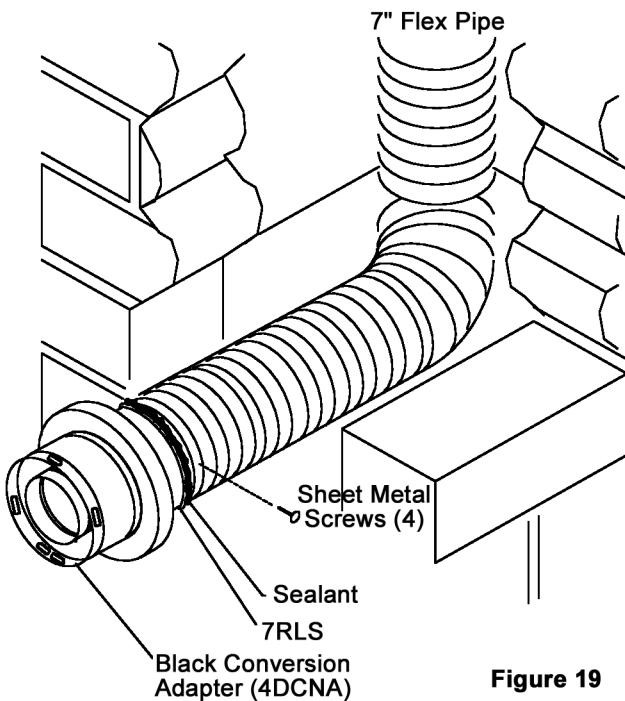

Figure 19
23. Insert the crimped end (unflanged) of the 7RLS into the bottom end of the 7" flex up to the point of the flared-out bead around the circumference of the 7RLS. Fasten it to the flex pipe with sheet metal screws. Put a bead of sealant around the seam of the 7RLS and the 7" flex. See Figure 19.